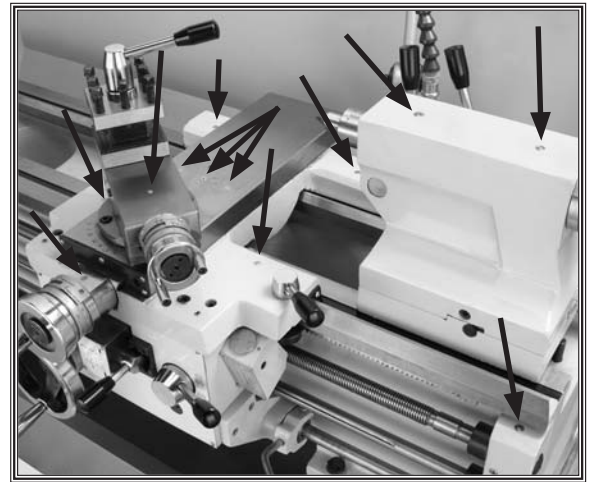

Figure 66. Ball fitting locations.
Ball fittings, shown in **Figure 66**, are responsible for the majority of the machine lubrication. To lubricate ball fittings, clean the outside of the ball fitting, depress the ball with the tip of the oil can nozzle and squirt a little oil inside the fitting.
2. Oil the areas daily shown by arrows in **Figure 66**, with one to two shots of SAE 20W non-detergent oil or equivalent. Some areas may require fewer or more shots depending on use. These areas include: